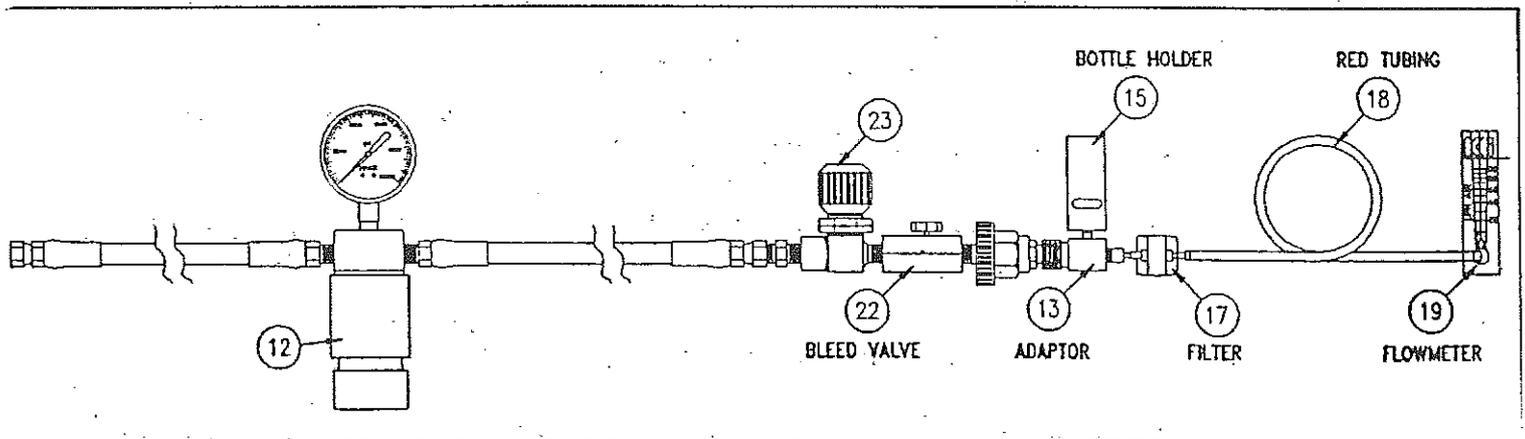

FIGURE 14-7 FLOW METER INSTALLATION
- Gently twist on the filter (17) to the filter fitting (male lure fitting) located on the side of the adaptor (13) (do not over-tighten) (Figure 14-7). Use the red tubing (18) with the barbed fitting attached to connect the filter to the flowmeter (19).
8. Open the adaptor device valve (23) (Figure 14-7) slowly to normal operating pressure. Check the flowmeter reading which must be between 20 and 100 liters per minute (LPM). Begin timing test.
**CAUTION:** FLOWMETER (19) SHOULD BE PLACED ON A LEVEL SURFACE IN THE VERTICAL POSITION AND READ AT EYE LEVEL.
9. After 15 minutes close valve (23) (Figure 14-7) and immediately remove the source bottle (20) from the bottle holder (15). Place a protective netting on bottles.
1. Bleed pressure from the sampling device using the bleed valve (22) shown in Figure 14-7..